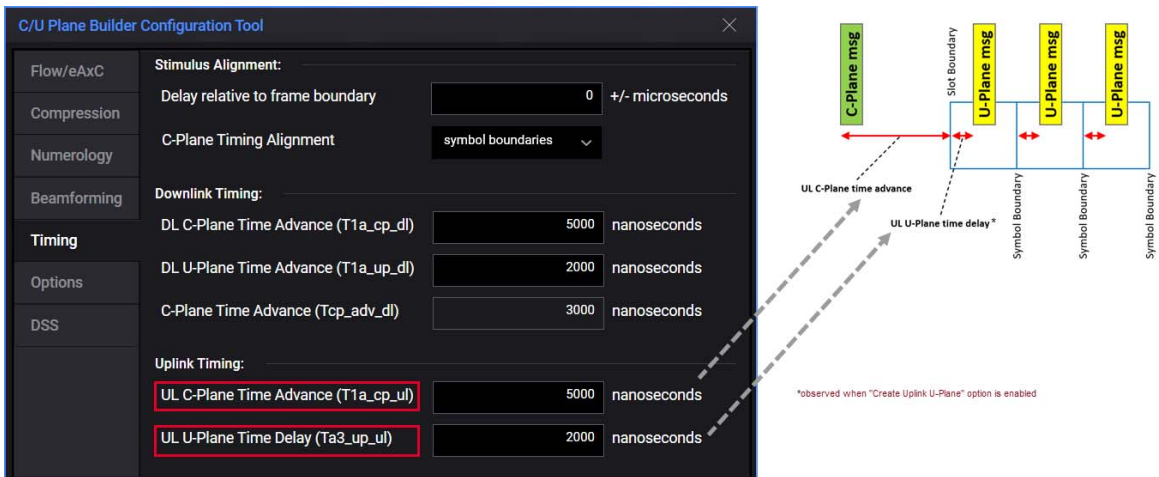

Figure 70 Timings for C-Plane and U-Plane messages (UL)
- The block diagram depiction of the timing of C-Plane messages and U-Plane messages in a UL carrier is shown in Figure 70.